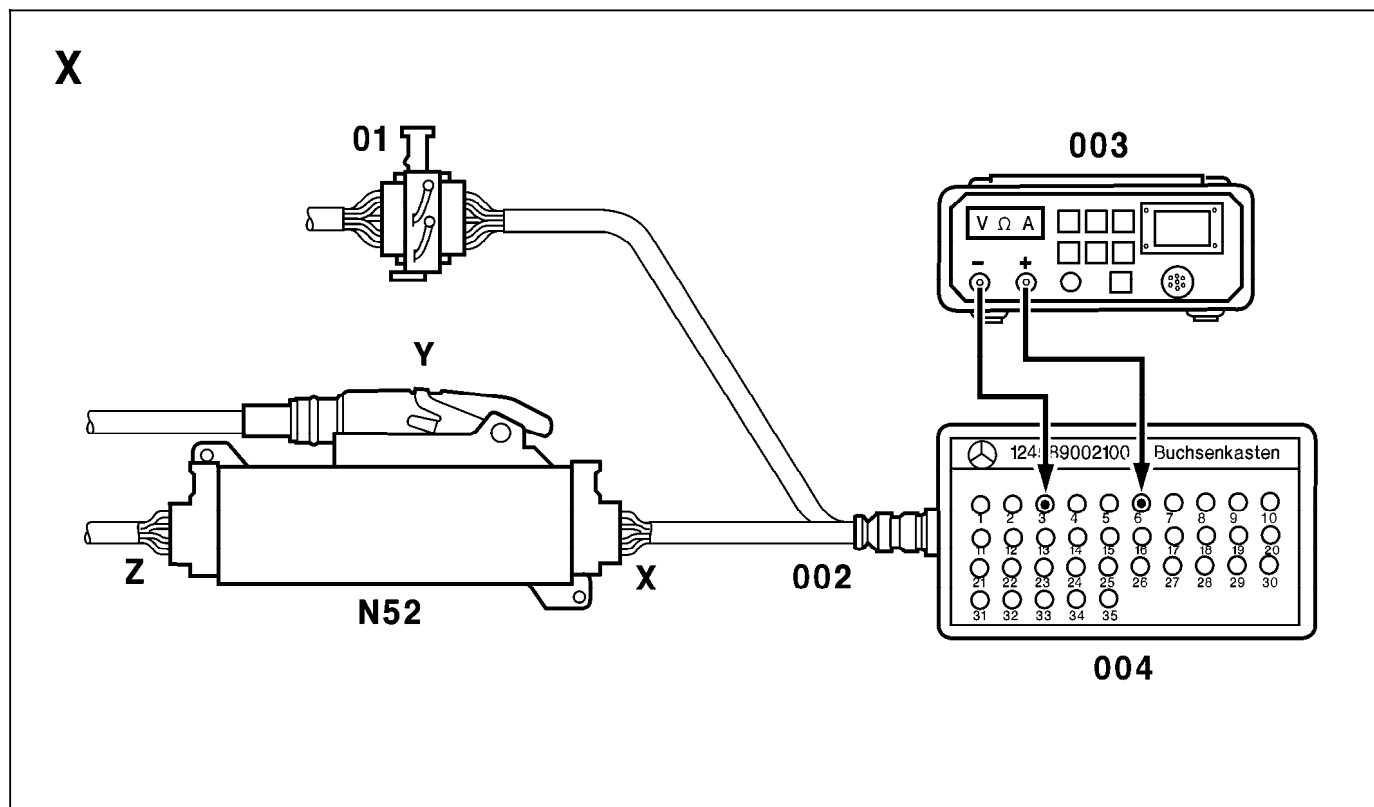

Figure 1
2. Bridge sockets 1 and 3 of connector (X11/12) in passenger footwell (21, Figure 1).
X  indicates that the socket box should be connected according to Connection Diagram X (22, Figure 1)